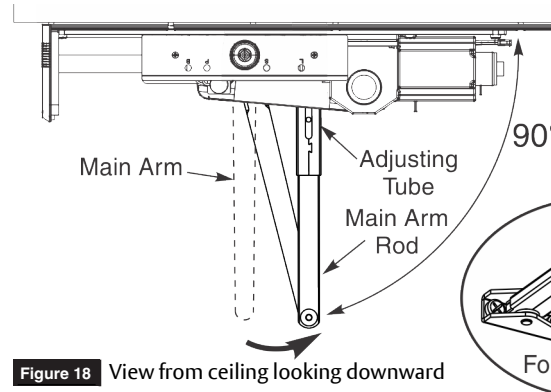

Figure 18 View from ceiling looking downward
3. With door closed, rotate main arm away from hinge until adjusting tube is perpendicular (90 degrees) with door. (Figure 18)